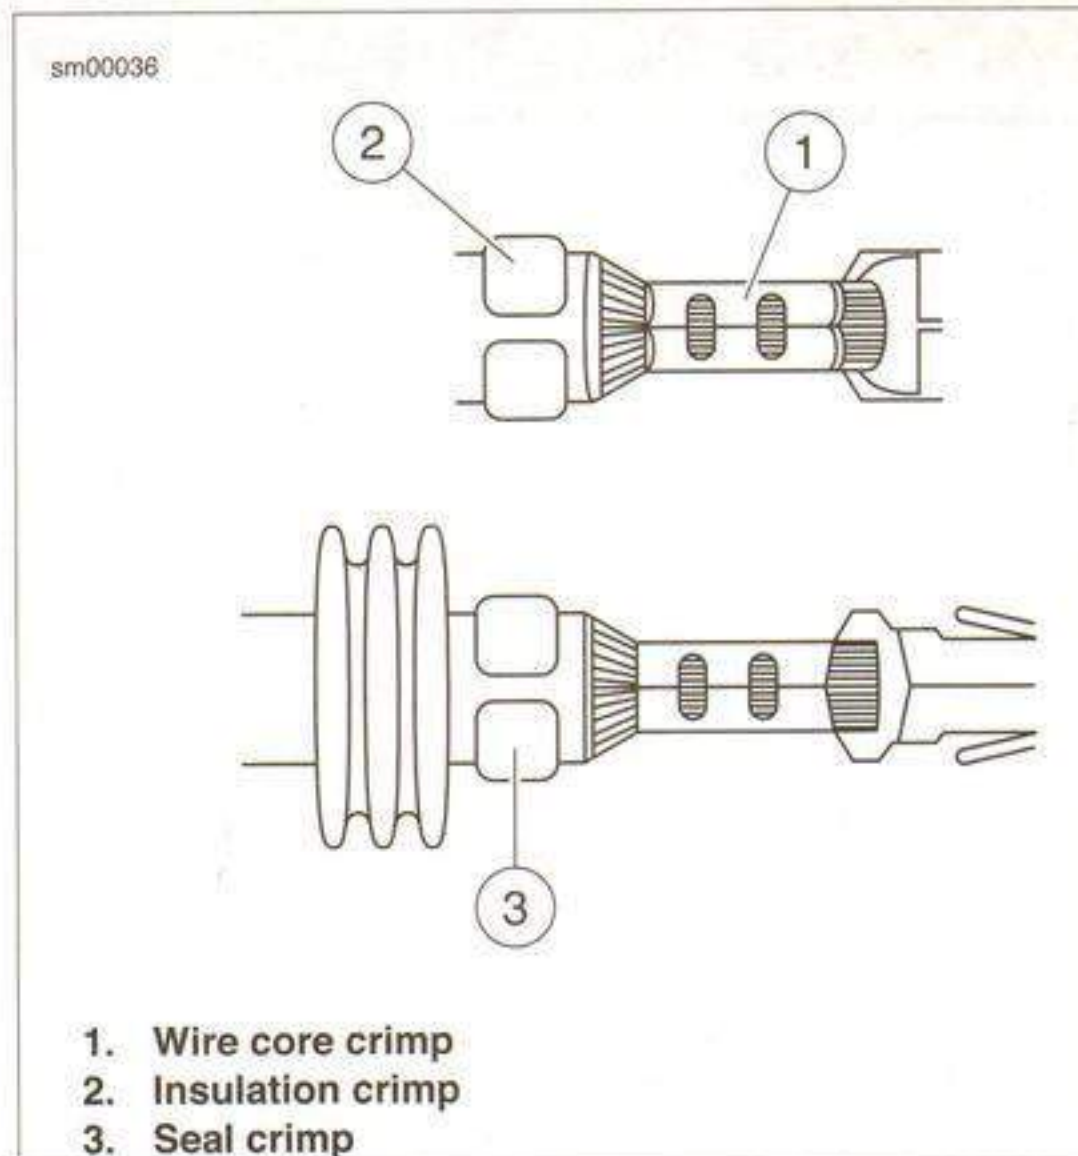

Figure A-43. Metri-Pack Connector: Inspect Core and Insulation/Seal Crimps
1. See Figure A-43. Identify the correct die for the insulation/seal crimp (2).
1. See Figure A-43. Inspect the wire core crimp (1). The tails should be folded in on the wire core without any distortion or excess wire strands.
2. Inspect the insulation (2) or seal (3) crimp. The tails of the terminal should be wrapped around the insulation without distortion.